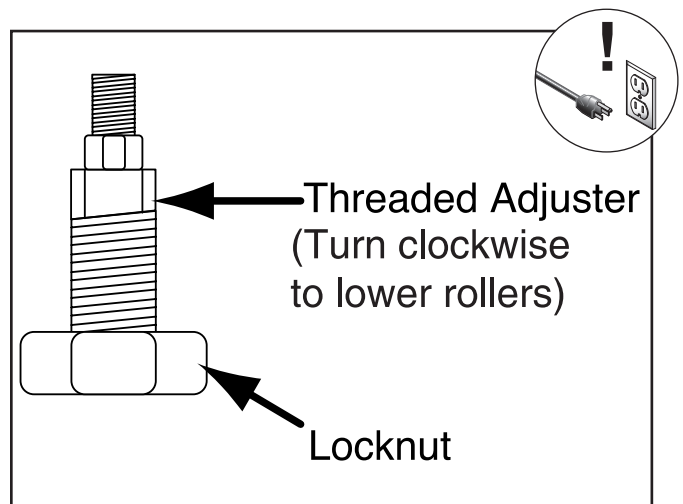

Figure 34. Feed roller height adjustment.
4. Loosen the locknut shown in **Figure 34** and move the threaded adjuster until the infeed roller rests on top of the gauge block.